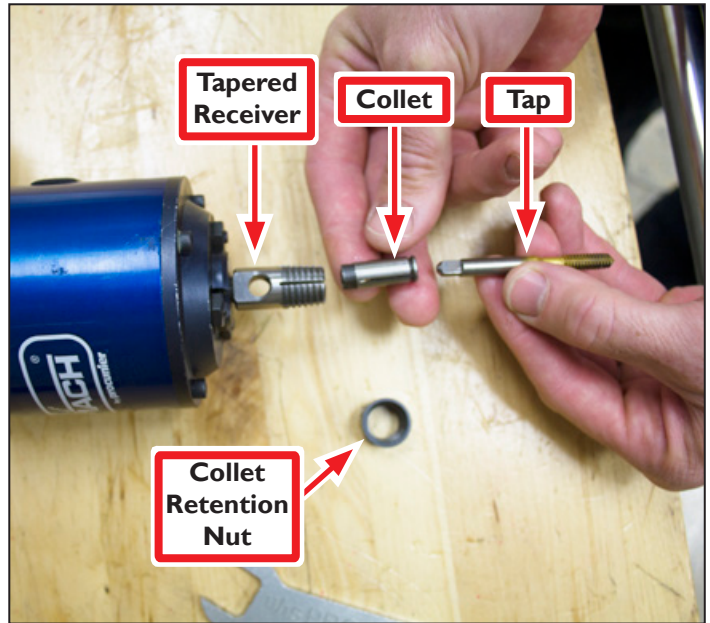

Figure 4
4. Using wrenches (included), remove Collet Retention Nut from Tapping Head as shown in **Figure 4**; set aside.
6. Loosely insert Tap into Collet; place into Tapered Receiver on the bottom of Tapping Head (see **Figure 4**).